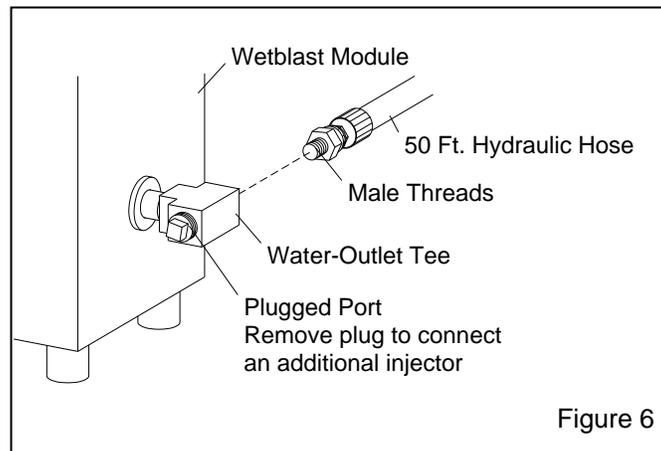

Figure 6
2.5.2 Apply thread sealant to the male threads on the other end of the 50-ft. hydraulic hose and connect it to the tee located on the side of the module as shown in Figure 6.